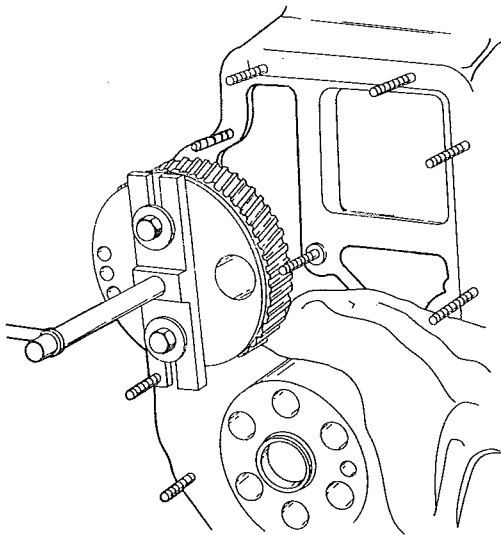

FIG. 20—REMOVING GEAR WITH PULLER
a. Remove the bolt and washer that attach the balancer shaft gear to the shaft. Use a puller as shown in Fig. 20 to pull the gear from the shaft. Remove the gear Woodruff key.